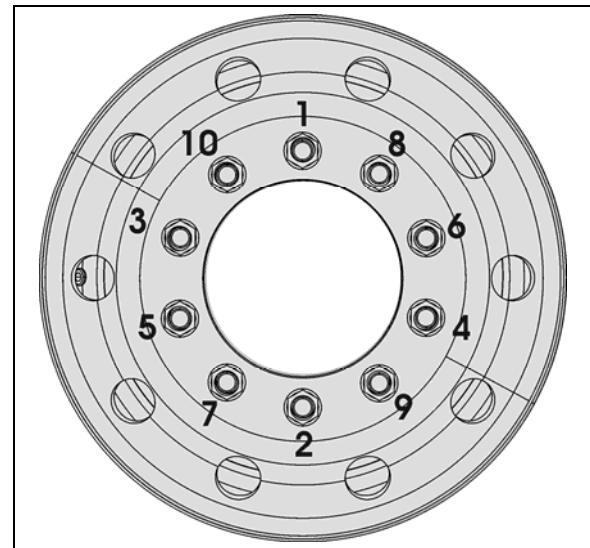

FIGURE 2: TIGHTENING SEQUENCE
It is also important that wheel stud nuts be tightened alternately on opposite sides of the wheel. Refer to Figure 2 for the suggested tightening sequence.
Tighten stud nuts progressively as shown in Figure 2. The final tightening should be done with a torque wrench. Tighten stud nuts to 450 - 500 lbf-ft (610 - 680 Nm) for steel wheels.
2. Screw in the hex stud nuts (refer to Figure 2 for sequence) so that wheel will position itself concentrically with hub. This is important, otherwise wheel may be eccentric with hub and will not run straight. In this initial step, slightly tighten the nuts to correctly position the wheel;
3. Tighten stud nuts progressively as shown in Figure 2. The final tightening should be done with a torque wrench. Tighten stud nuts to 450 - 500 lbf-ft (610 - 680 Nm) for all steel wheel.
With inner and outer wheels installed, tighten the stud nuts progressively as shown in Figure 2. The final tightening should be done with a torque
Repeat for each of the 10 "hex stud nuts" according to the tightening sequence in Figure 2.
Using a calibrated torque wrench, tighten wheel nuts to 450 - 500 lbf-ft (610 - 680 Nm) of torque. Do not use power tools or long bars for tightening. Tighten wheel nuts alternately as shown in Figure 2.